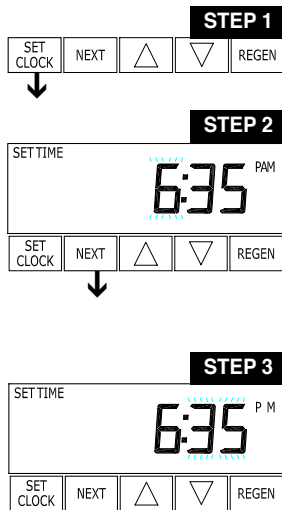

Figure 9
5. Set the time of day. (figure 9, page 8)